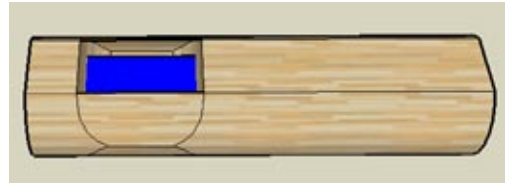

Figure 3-71
11. Remove the top painted face. You should see the first copy of it inside the log (Figure 3-71).